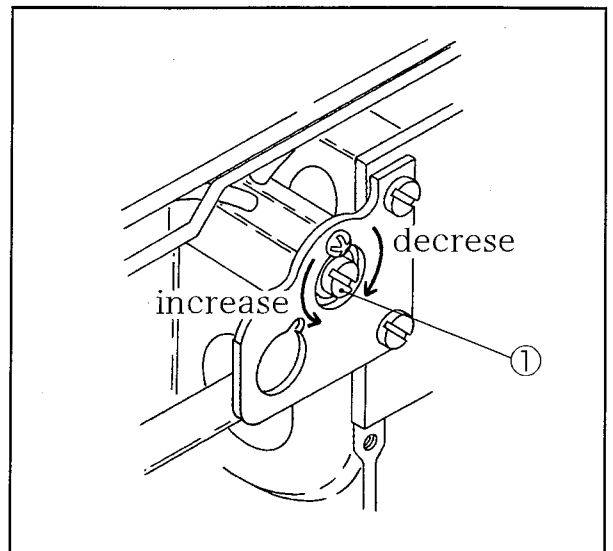

Fig.12
(1) tilt the machine backward.
(2) Turn the adjusting valve① in Fig.12.
- To decrease the amount, turn the valve① counterclockwise.